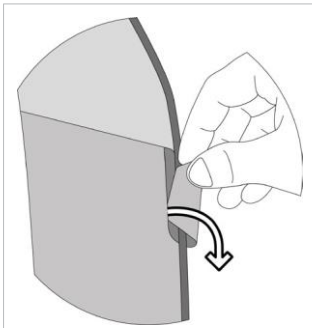

FIGURE 13 Open hook & loop tab
1. Open the hook and loop tab (Fig. 13).